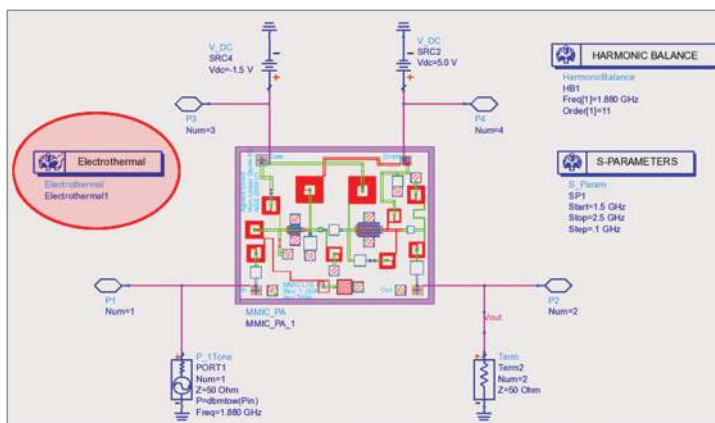

Figure 1a. The Electro-Thermal controller is used to setup and launch the thermal solver together with the circuit simulator.
3. An Electro-Thermal controller is added to the schematic, and settings for the thermal solver are adjusted (Figures 1a and 1b).